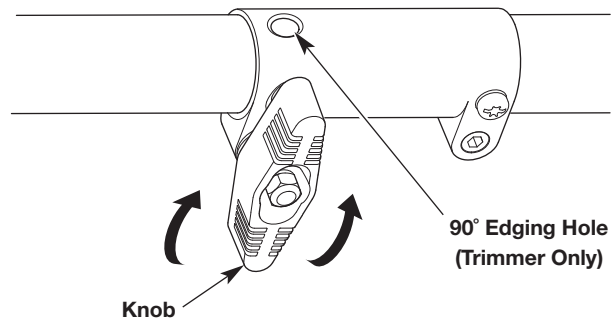

Fig. 3
3. Turn the knob counterclockwise to loosen the coupler (Fig. 3).
5. Turn the knob clockwise to tighten the coupler (Fig. 3).
NOTE: For decorative trimming with a string trimmer attachment, lock the release button into the 90° hole (Fig. 3).
2. Turn the knob counterclockwise to loosen the coupler (Fig. 3).